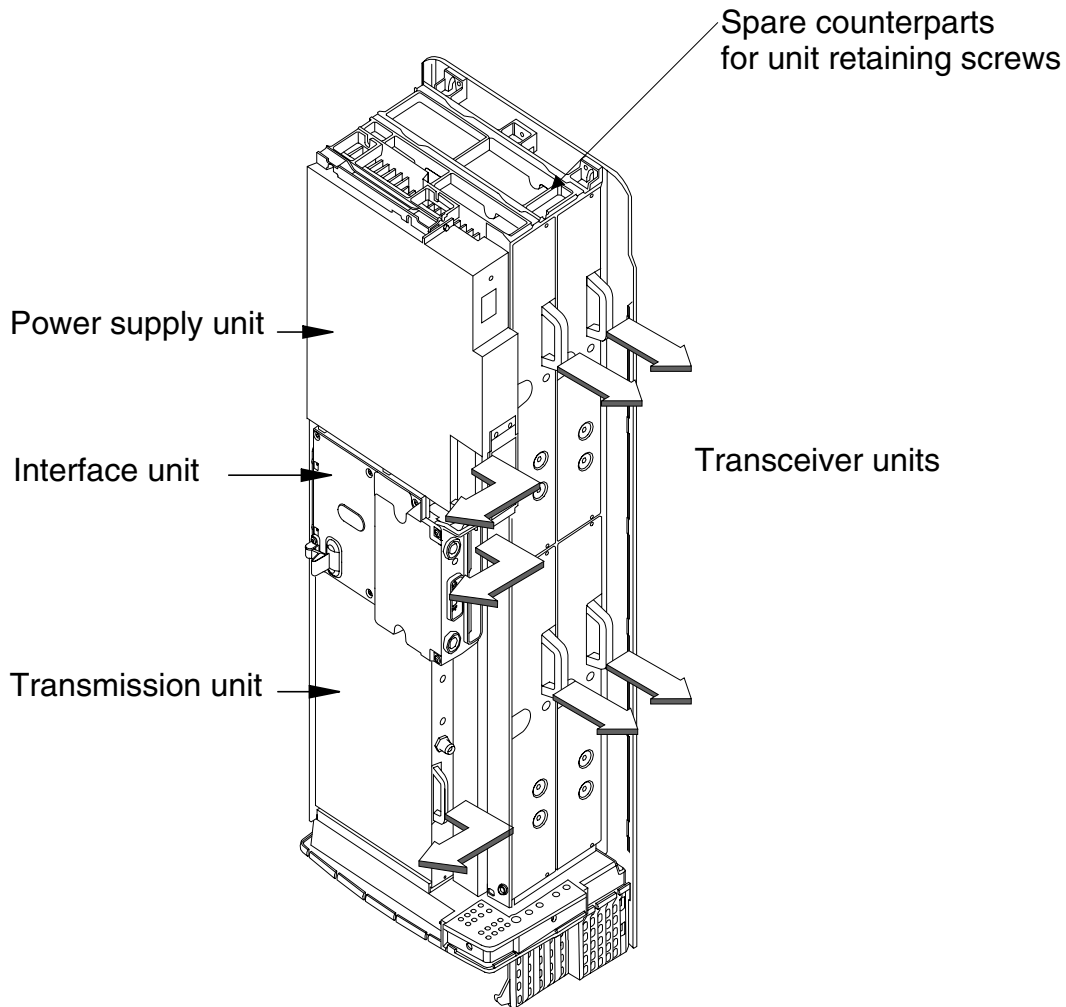

Figure 7. Removing the units
Figure 7 shows how the units are pulled out from the unit slots. Read the detailed step instructions for each unit before pulling the units out.
Spare counterparts for unit retaining screws can be found attached to the uppermost TRX guide beam on the top of the BTS (see Figure 7).
7. Remove the transmission unit. Pull the unit out from the front until the unit comes to a stop, then pull the unit out from the side. See Figure 7.